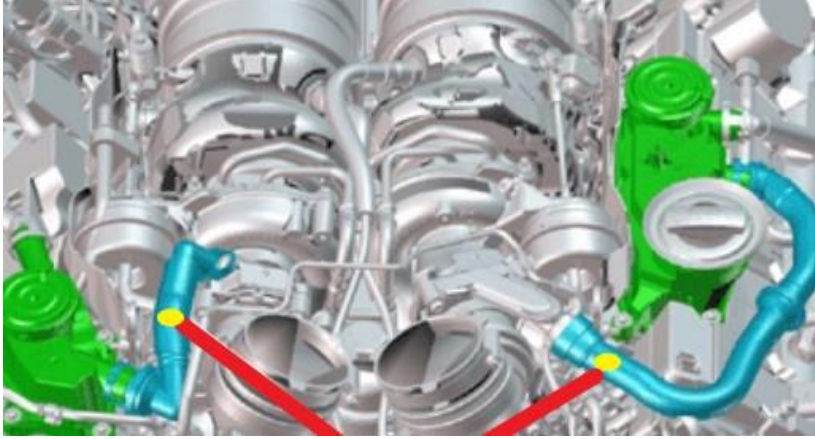

Figure 5
2) To confirm both pipes have been replaced using the H level parts the operative must place a yellow paint mark as shown in Figure 5